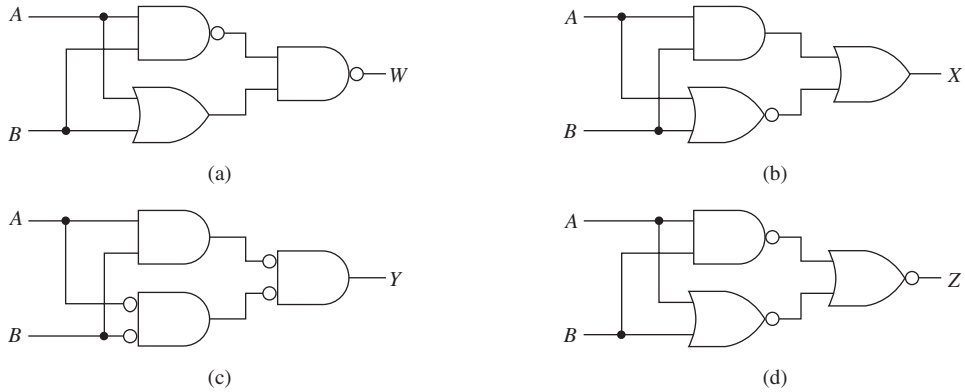

Figure P4
4. Write the Boolean equations for the circuits in Figure P4. Simplify the equations and determine if they function as an Ex-OR, Ex-NOR, or neither.